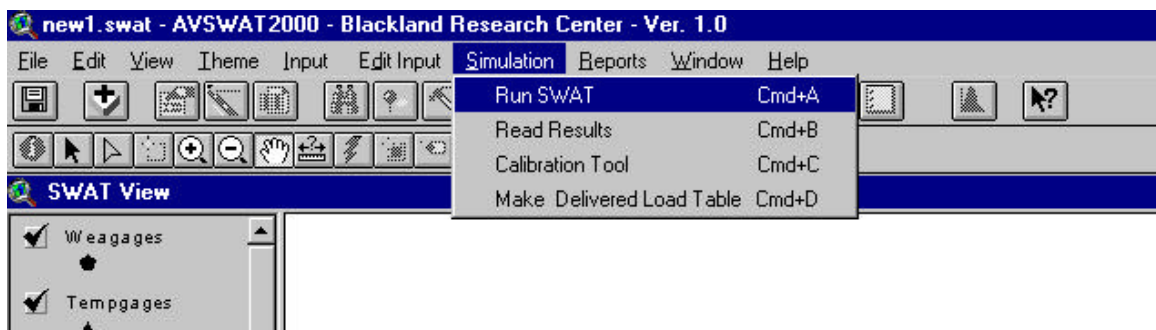

Figure 13.2
1. Select **Run SWAT** from the **Simulation** menu on the SWAT View (or press Cmd+A) (Figure 13.2).